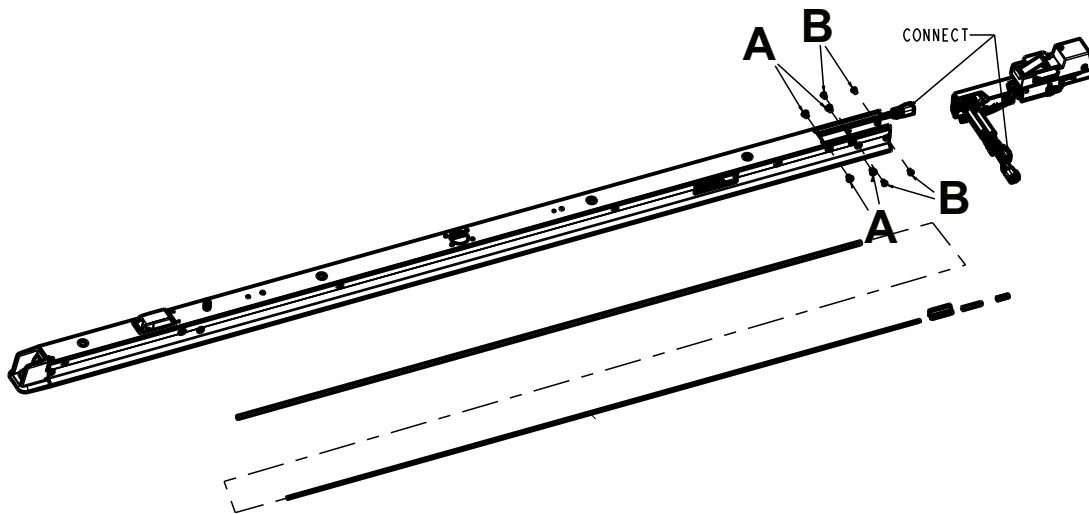

Figure 50 – Remove the anchor pawl assembly from the anchor
5. Using a 5/32" hex wrench, remove the four screws (A) (Figure 50). Save the screws.
6. Using two 1/8" hex wrenches, remove the four flat head cap screws (B) that secure the anchor pawl assembly to the anchor (Figure 50). Save the screws.